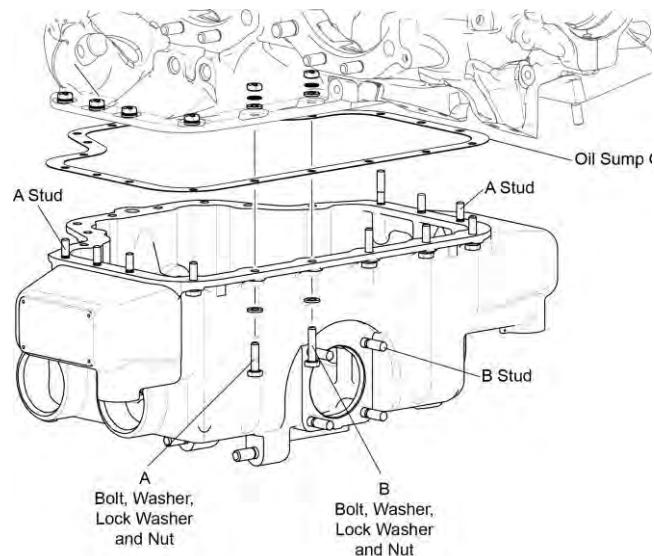

Figure 9
- C. Remove the six nuts, lock washers, and washers from the six A Studs (Figure 9) that attach the oil sump to the crankcase. Discard the lock washers.
- E. While one person holds the oil sump, remove the two B Bolts, along with four washers, and two lock washers from the locations shown in Figure 9 on the oil sump.
- E. Install a new oil sump gasket in either the oil sump flange (Figures 9 and 12) or on the mating flange of the crankcase.
- G. Examine all of the oil sump fasteners identified as A and B, in Figure 9, that were to be kept separate when the oil sump was removed. Make sure the bolts, studs, and nuts are not damaged and have no stripped threads. Replace any damaged or stripped fastener.
- H. Install the A Studs on the oil sump in the locations shown in Figure 9.
- I. Install the two B Bolts each with a nut, two washers and a new lock washer at the location shown in Figure 9. Torque the nuts to 96 in.-lb. (11 Nm).
- J. Install the 12 A Bolts, each with a nut, two washers and new lock washer as shown in Figure 9. Torque the nuts to 96 in.-lb. (11 Nm).